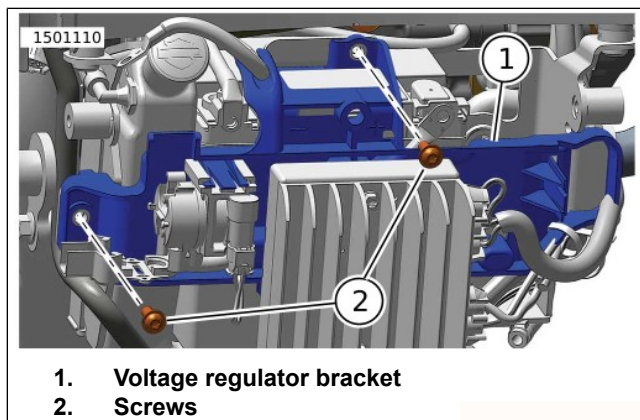

Figure 79. Voltage Regulator Bracket Screws
5. Figure 79 Remove voltage regulator bracket screws (2).
2. Figure 79 Position voltage regulator bracket (1).
3. Install voltage regulator bracket screws (2). Tighten.